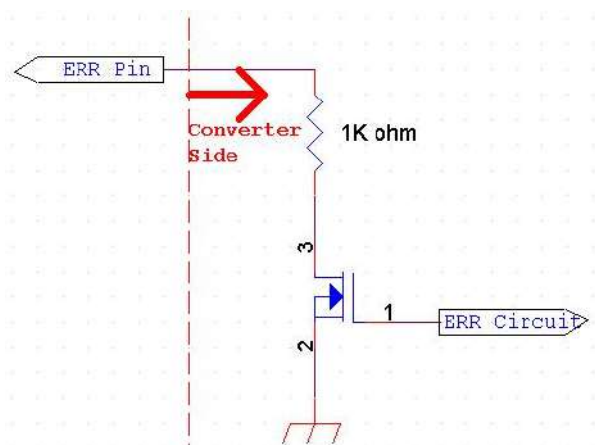

Fig. 2
Note (4) When converter protective function is triggered, ERR will output open collector status. (Fig.2)